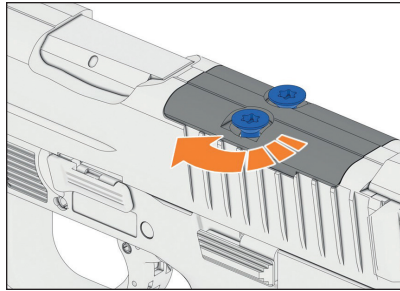

Figure 17 – Tighten screws
4. Tighten screws until the torque is reached (Fig. 17).